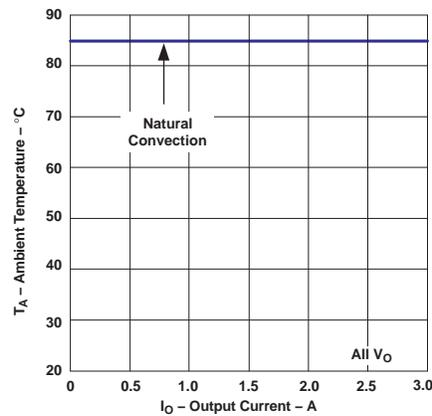

Figure 8. Ambient Temperature vs. Output Current
- (2) The temperature derating curves represent the conditions at which internal components are at or below the manufacturer's maximum operating temperatures. Derating limits apply to modules soldered directly to a 100 mm x 100 mm double-sided PCB with 2 oz. copper. Applies to Figure 8.